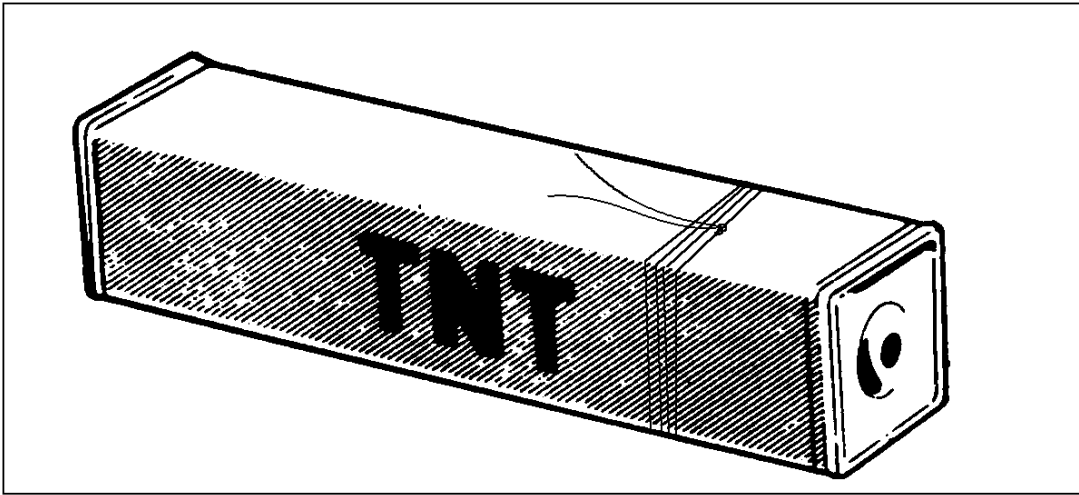

Figure 051-193-1311-13
- (1) Place the blasting cap underneath a sandbag.
- (2) Use the pointed end of the M2 crimpers to punch a hole in the paper that covers the threaded cap well of the block of TNT.
- (3) Inspect the threaded cap well to ensure that nothing is preventing the blasting cap from fully seating in the threaded cap well of the explosive.
- (4) Wrap the string around the block four times. Ensure that the tails are the same length and secure the wraps with a nonslip knot (Figure 051-193-1311-13).